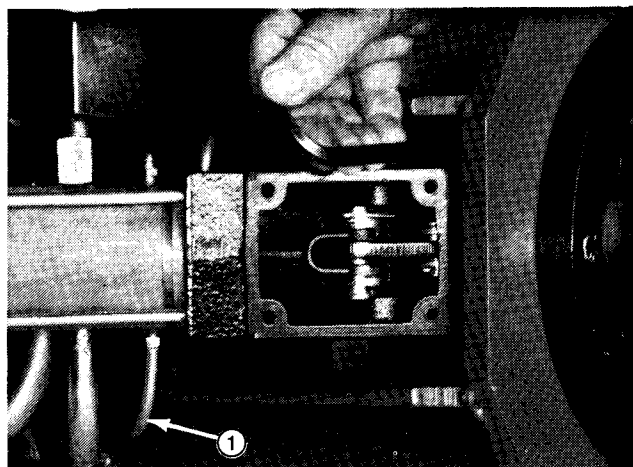

Figure 27
2. Remove four allen head capscrews to disconnect brake actuator housing from brake housing (Fig. 27). Be careful not to damage the brake tube line when moving the brake actuator housing away from the brake housing.
3. Disconnect brake tube line from fitting on actuator (Fig. 27).